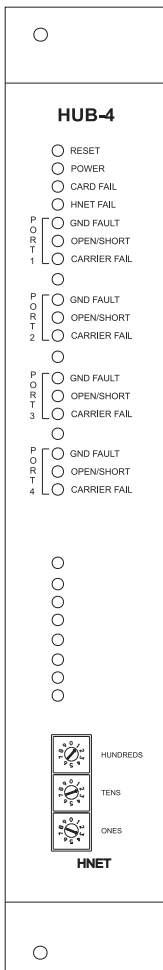

Figure 1
The front panel of the HUB-4 contains one reset switch, 15 LEDs and three HNET address switches as shown in Figure 1.
1. **Network Address Switches:** Set the three-digit HNET network address for the HUB-4 using the three rotary dial switches located near the bottom of the front panel. (Refer to Figure 1 for the location of the switches.) The address for the HUB-4 must be the same as the address selected for it in the NCC WAN/PMI-2 Concentrator. To set the address, turn the pointers on each of the three dials to the numbers for the selected address. For example, if the address is 123, set the pointer for the HUNDREDS dial to "1," set the pointer for the TENS dial to "2," and set the pointer for the ONES dial to "3." The range of allowable addresses is from 001 to 251 (leading zeros must be used).